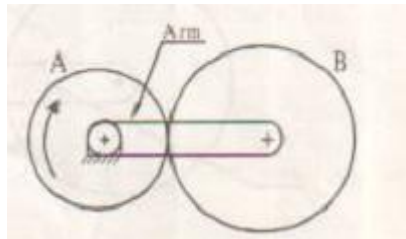

Fig. 4.1
- Two spur gears A & B of an Epicyclic gear train is shown in the figure 4.1 have 24 and 30 teeth respectively. The arm rotates at 100 rpm clockwise. Find the speed of gear B on its own axis when gear A is fixed. If instead of being fixed the wheel A rotates at 200 rpm in ccw direction, what will be the speed of gear B. (solve it by algebraic method)